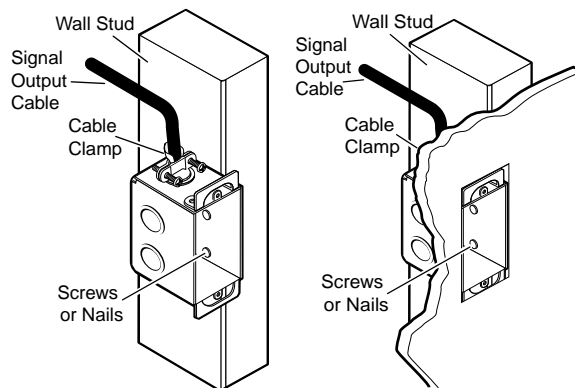

Figure 11. Installing the Wall Box
5. Secure the wall box with nails or screws, leaving the front edge flush with the outer wall or furniture surface (figure 11).